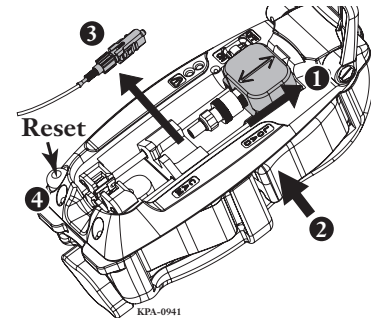

Figure 76 — Open Cover and Remove Connector
- Step 5:** Open the cover and slide the VFL Coupler back. Slightly press the LOAD Button to remove the connector (Figure 76).